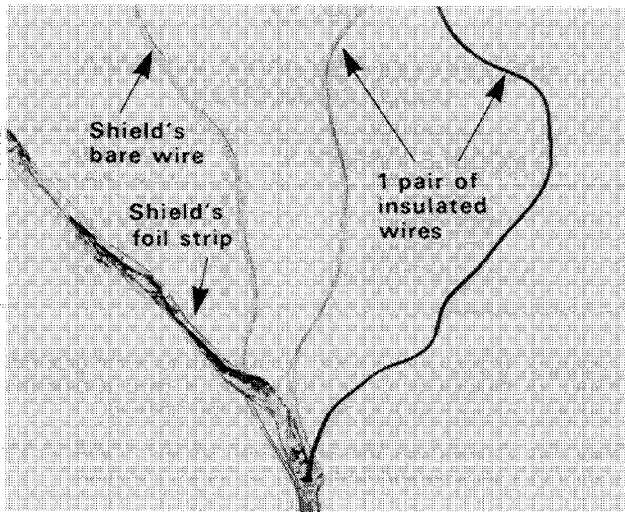

Figure 3.37 – Peeling Foil Shield
- **Step No. 2** — Peel the shield away from the two insulated wires. The Belden 8761 shield is composed of a strip of foil and a bare stranded wire. (Refer to Figure 3.37.)